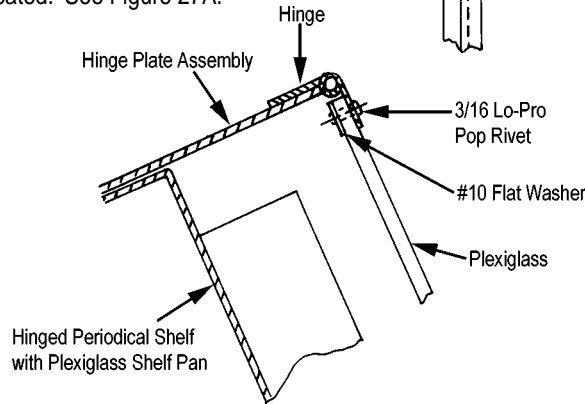

FIGURE 27B
4. Pop rivet the cover in place through the hinge, plexiglass and #10 flat washer with a 3/16 Lo-pro pop rivet. See Figure 27B.